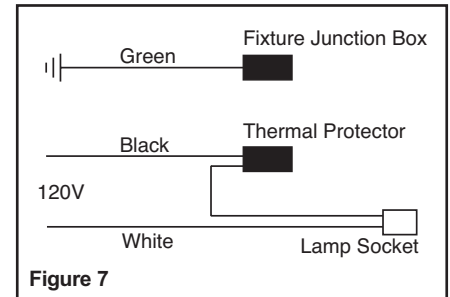

Figure 7
**Step 3.** Connect supply wires to fixture wires utilizing the push-in connectors provided, so as to cover all bare current-carrying conductors. Connect black fixture wire to hot, white fixture wire to neutral and green fixture wire to ground (Fig. 7).